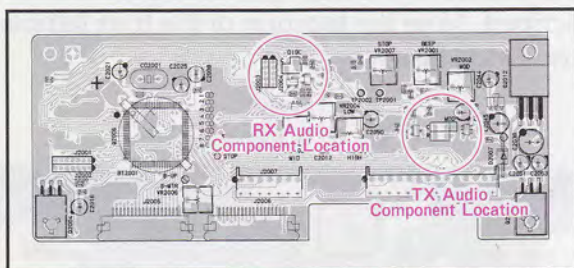

Fig. 1 Modification Component Location
- Remove the top cover as described on the previous page to expose the CNTL Unit. Refer to Fig. 1 to familiarize yourself with the part locations.